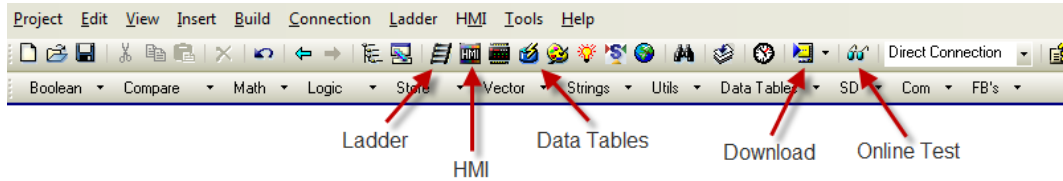

Figure 1- Main Menu
Step 2: Select the **HMI** icon from the main menu (Figure 1). This brings us to the *HMI screen*.
Step 8: Download the application to the controller. This is accomplished by selecting the **Download** icon from the main menu toolbar (figure 1). The download process will begin. Once the download is complete, a *Visilogic will send RUN command to the OPLC* message will appear. Click **OK**.
To view the controller's HMI screen on the PC, there is a tool named *Remote Access*. From the Main tool bar (figure 1) select the **Online test** icon. This will open the tool bar featured below:
Step 3: Now, select the **ladder** icon in the main menu (figure 1). This will open the ladder logic.
Step 9: Download the application to the controller using the **download** icon from the main menu toolbar (figure 1). Once downloaded, touch the lamp on the PLC and watch the top timer count down from 10s. To change the 10s value, click the lower timer (yellow) and a keypad will appear. Enter the timer value desired.
Step 1: Select the **Data Table** Icon from the main menu toolbar (figure 1). The *Data Tables* window will appear. Now, click the **Add Table** icon, indicated below by a red arrow.
Step 3: In the main menu (figure 1), select **Boolean>Contacts>Positive Transition Contact**. Place the Contact on the left rail. The *Select Operand and Address* window opens. Type **0**. Description Lamp will appear. Select **OK**.
Step 4: In the main menu (figure 1), select **Boolean>Contacts>Negative Transition Contact**. Place the contact below the Positive Transition Contact (shown above). The *Select Operand and Address* window opens. Type **0**. Description Lamp will appear. Select **OK**.
Step 8: From the main menu toolbar (figure 1) select **Data Tables>Data Tables Write Row**. Place the function block the right of the RTC to ASCII time. Once placed, a *Data Tables-Write Row to Data Tables* window appears. The screen shot below shows the values that must be entered into the window.
Step 9: In rung 4, in the main menu toolbar(figure 1), select **Boolean>Contacts>Positive Trasition Contact**. Place the Contact on the left rail. The *Select Operand and Address* window opens. Type **0**. Select **OK**.
Step 10: In the main menu toolbar (figure 1), select **Boolean>Contacts>Negative Transition Contact**. Place the contact below the Positive Transition Contact (shown above). The *Select Operand and Address* window opens. Type **0**. Select **OK**.
Step 13: From the main menu toolbar (figure 1) select **Compare>Greater than**. Place the greater than function block to the right of the incrementer. A *select operand and address* window appears. Enter **MI, 21**. Select **OK**.
Step 15: Download the application to the controller using the **download** icon from the main menu. Once downloaded, select the **Data table** Icon in the main menu toolbar (figure 1). This will open the *Data Tables* window. Select the **Online test** in the main menu of the *Data tables* window. Once online, toggle the lamp by pressing it on the PLC. Notice that with each press, a new row is created in the data table.